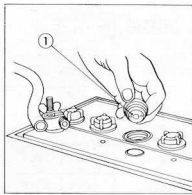

Fig. 15 Battery Filler Plug
1. Remove the battery filler plugs (Fig. 15) and check that the electrolyte level is 6 to 9 mm ($\frac{1}{4}$ to $\frac{3}{8}$ in) above the tops of the separators.